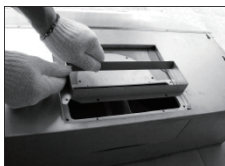

Fig. 3c
- Install the "rectangular section" transition plate on next. (**Fig. 3c**)